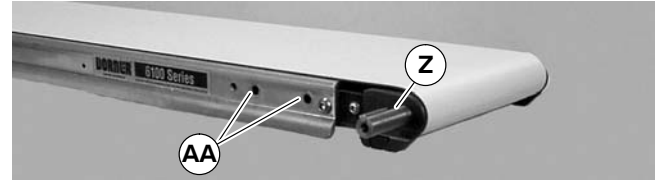

Figure 11
4. Locate drive output shaft (Z of Figure 11) and remove two screws (AA).